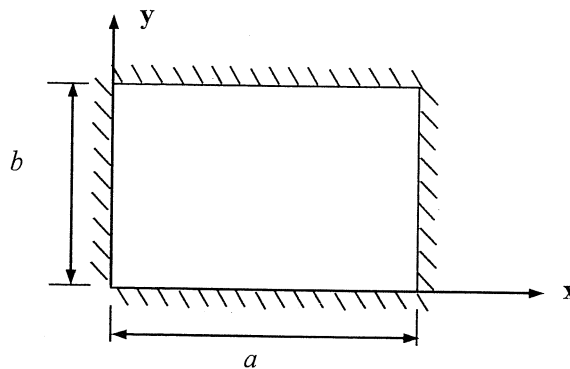

Figure Q7
- (i) A rectangular plate of sides a and b is simply supported on the four sides and subjected to a distributed load $q = q(x,y)$ as shown Figure Q7. Show that the lateral deflection of the plate is given by